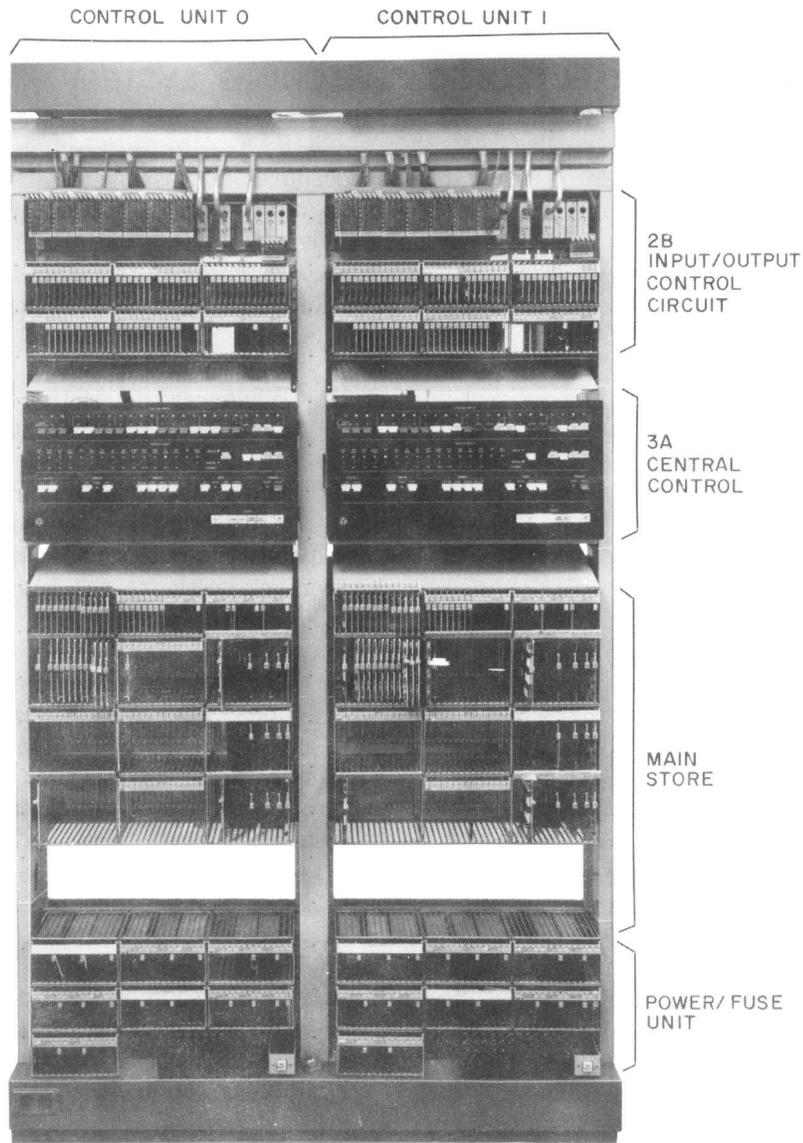

Fig. 1—No. 2B ESS Processor Frame
1.03 The 3A CC is located in the upper midsection of each bay of the processor frame (Fig. 1). The position on the frame provides the operator convenient access to the keys and switches of the 3A CC control panel.